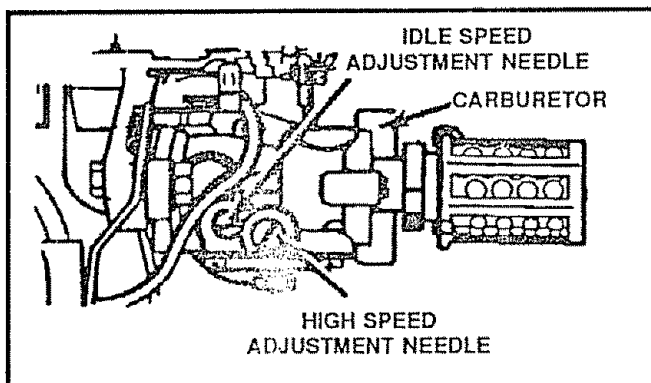

FIG. 13
- Turn the high-speed adjustment needle (see Fig. 13) clockwise to "finger tight" only. Use a regular screwdriver to turn the idle speed adjustment needle clockwise.